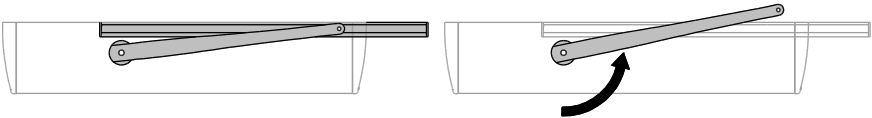

Fig.8 Pull arm pre-tensioning
- Insert slide coupling (C) within the guide (B)
- Locate spindle (G) on output shaft so that end of arm (F) meets the slide coupling (C).
- Detach arm (F) from spindle (G)
- Remove spindle (G) from output shaft and rotate 1 to 3 teeth (5 to 15°) in the direction of door to tension spring (Fig. 8) and replace.
- Insert washer (H) and secure screw (I) into spindle
- Locate and secure arm (D) to spindle (G).
- Rotate arm to reach the coupling (C)
- Secure coupling (C) to arm (F)
- Insert guide cover profile (A) and end caps (E,D)